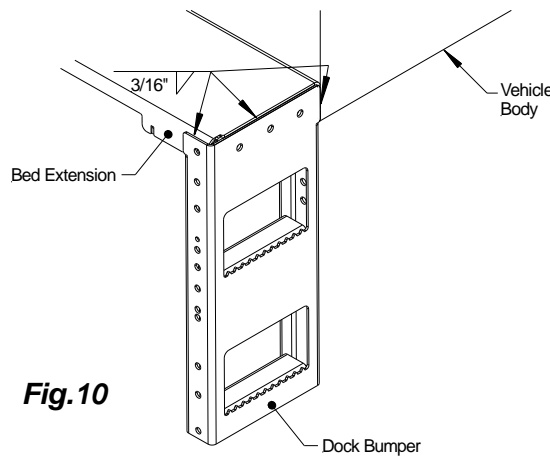

Fig.10
1. Support Dock Bumpers: Clamp dock bumpers to bed extension as shown, **Fig.10**. Check for squareness. Tack weld the dock bumper.